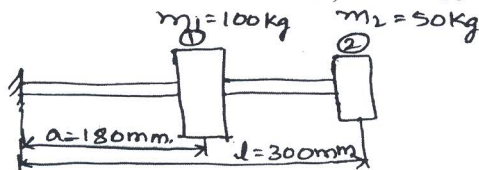

Fig.Q10(b) (08 Marks)
- b. Find the lowest natural frequency of vibration for the system shown in Fig.Q10(b) by Rayleigh's method. $E = 1.96 \times 10^{11} \text{ N/m}^2$, $I = 4 \times 10^{-7} \text{ m}^4$.